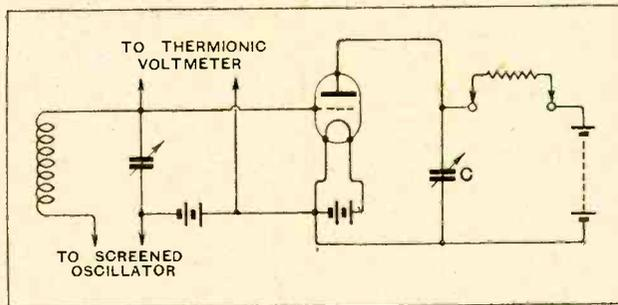

Fig. 1.—Connections for measuring the input load of the detector.
For these tests a screened oscillator (Fig. 1) energised the tuned input circuit. The voltage developed across this circuit was applied across the grid-filament connections of the detector under test, and was measured by a thermionic voltmeter of the slide-back type. A steady bias of -4 volts was maintained on the grid of the detector. The input voltage was noted with the detector filament (1) off and (2) on. The filament connection was broken
The effect on the input voltage (when the detector filament is on) of the shunt capacity C (Fig. 1) added across the external anode circuit is shown in Fig. 2, for